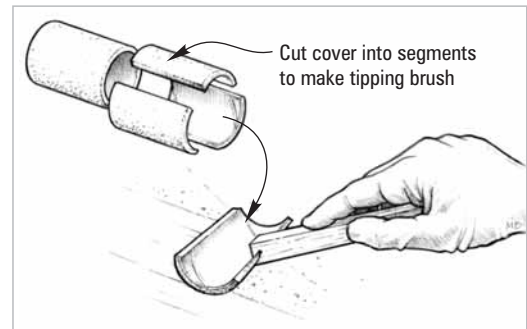

Figure 9-24 Tip off the fresh coat of epoxy with the grain, using a foam roller brush to remove bubbles and roller marks.
8. Drag a foam roller brush lightly over the fresh epoxy in long, even, overlapping strokes after each full batch is applied. Use enough pressure to smooth the stipple, but not enough to remove any of the coating (*Figure 9-24*). Alternate the direction in which each coat is tipped off, 1st coat vertical, 2nd coat horizontal, 3rd coat vertical, etc. A WEST SYSTEM 800 Roller Cover can be cut into segments to make a tipping bush.